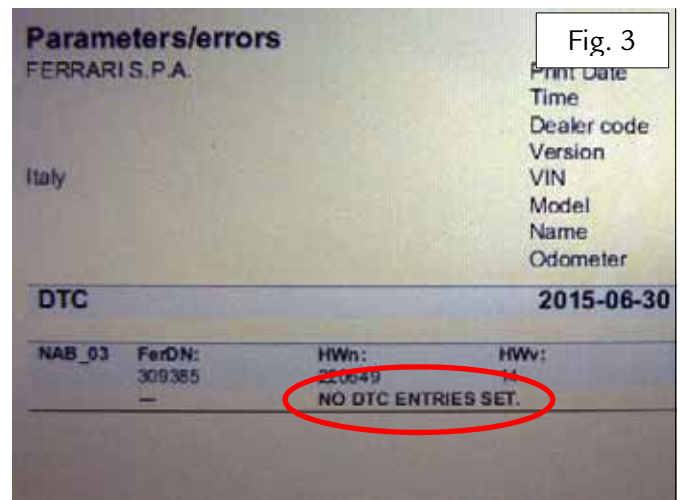

Fig. 3
1.9 Access the “DTC” area of the DEIS Tester relative to the “NAB” airbag ECU, select “Save”, “Preview” and “Print” in the sequence given and check that there are no active errors in the ECU memory – Fig. 3.